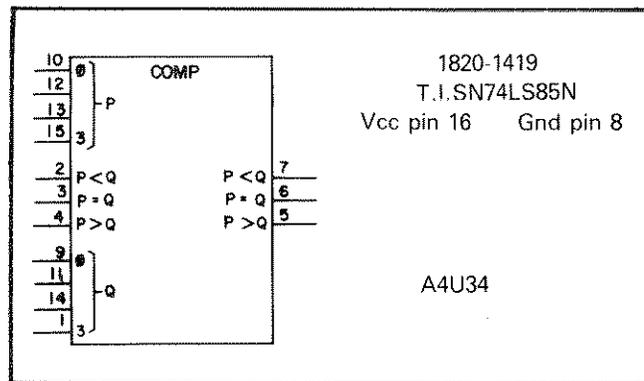

Figure B-21. Magnitude Comparator
**Magnitude Comparator.** A magnitude comparator compares two sets of digital data. Figure B-21 shows a four-bit magnitude comparator. If the cascade input  $P < Q$  is active, the cascade output  $P < Q$  is active. If the  $P > Q$  input is active, the  $P > Q$  output is active. If the  $P = Q$  input is active, the P and Q inputs determine which output is active.